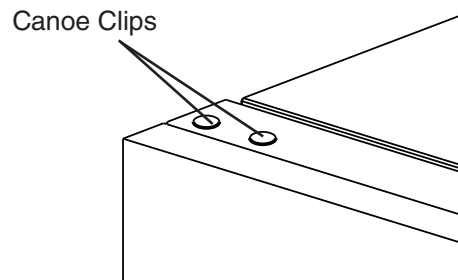

Fig. 29
- 10) Insert the 2 canoe clips included in the accessory bag into the holes on top of the door. See Fig. 29.